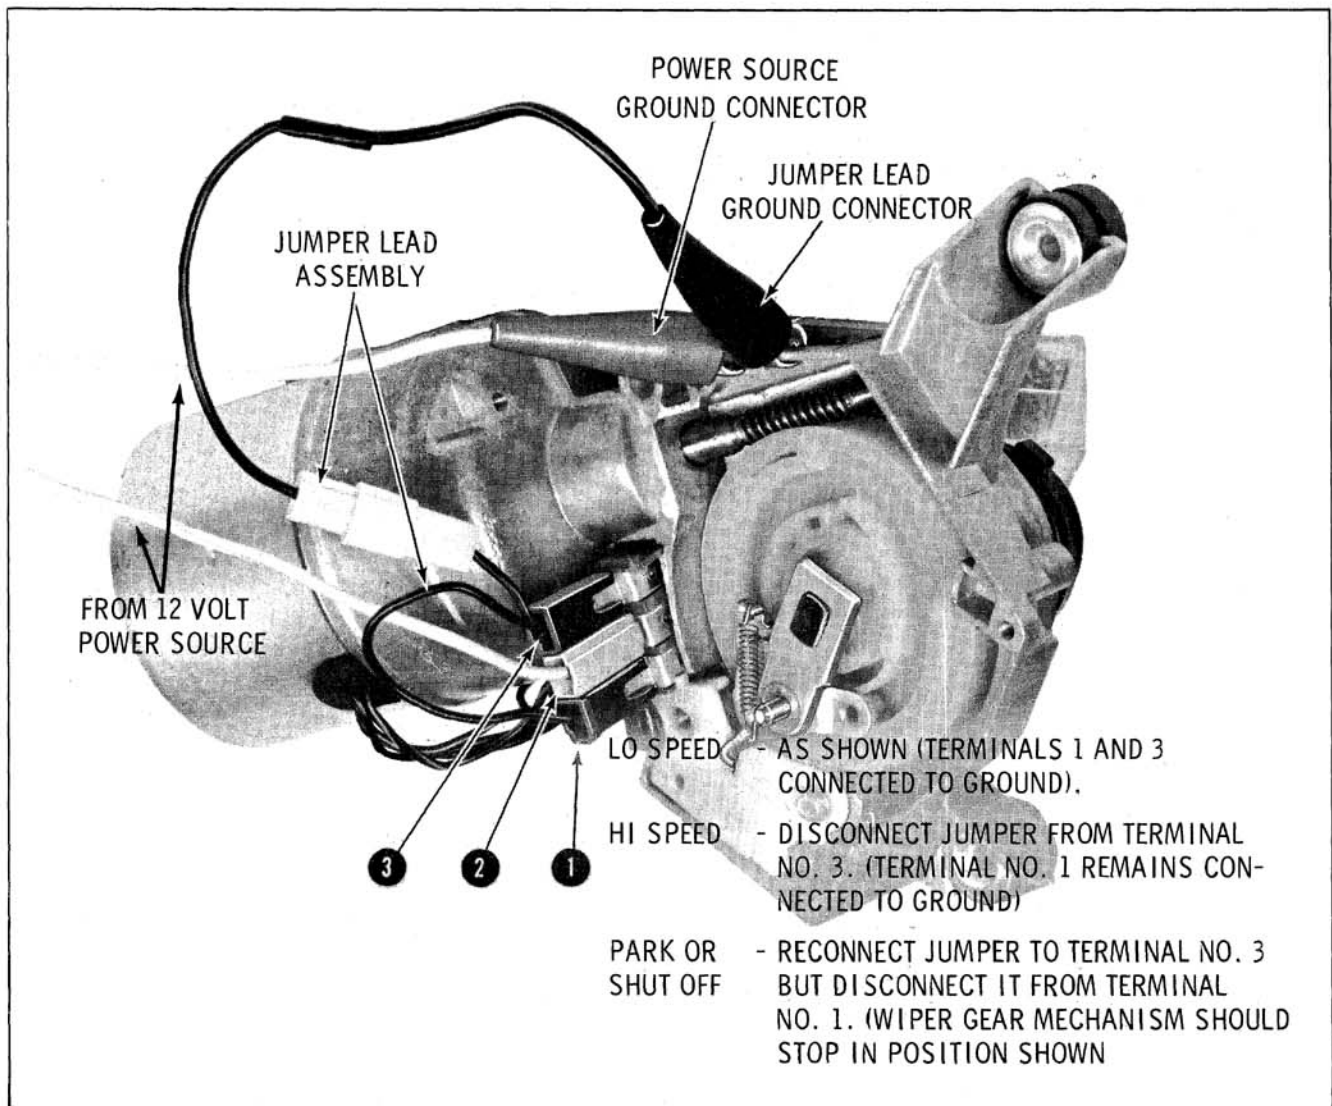

Fig. 13-178 Checking Wiper Operation
Before using chart, try operating wiper as shown in Fig. 13-178. Check if wiper has "Lo" and "Hi" speeds and shuts off correctly. Match the trouble found with the trouble shown in the chart. Use checking procedure as indicated to locate cause of trouble.
2. Check wiper for "Lo" speed operation. (Fig. 13-178) If wiper has "Hi" speed only, check the following items:
2. Connect up wiper to operate in "Lo" speed. (Fig. 13-178) Connect ammeter (range 0 - 30 amps.) in feed wire circuit to wiper and observe current draw. Allow motor to run until it becomes hot.